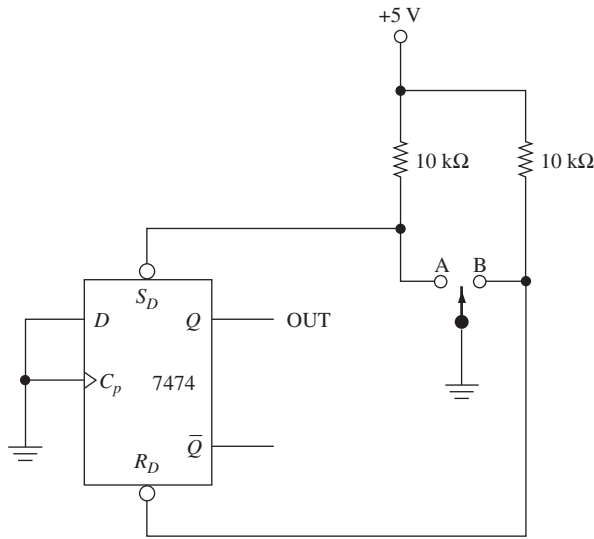

Figure 11–41 *D* flip-flop method of debouncing a single-pole, double-throw switch.
shown in Figure 11–40(a) actually has three positions: (1) position A, (2) in between position A and position B while it is making its transition, and (3) position B. The cross-NAND debouncer works very similarly to the cross-NAND *S-R* flip-flop presented in Figure 10–2.